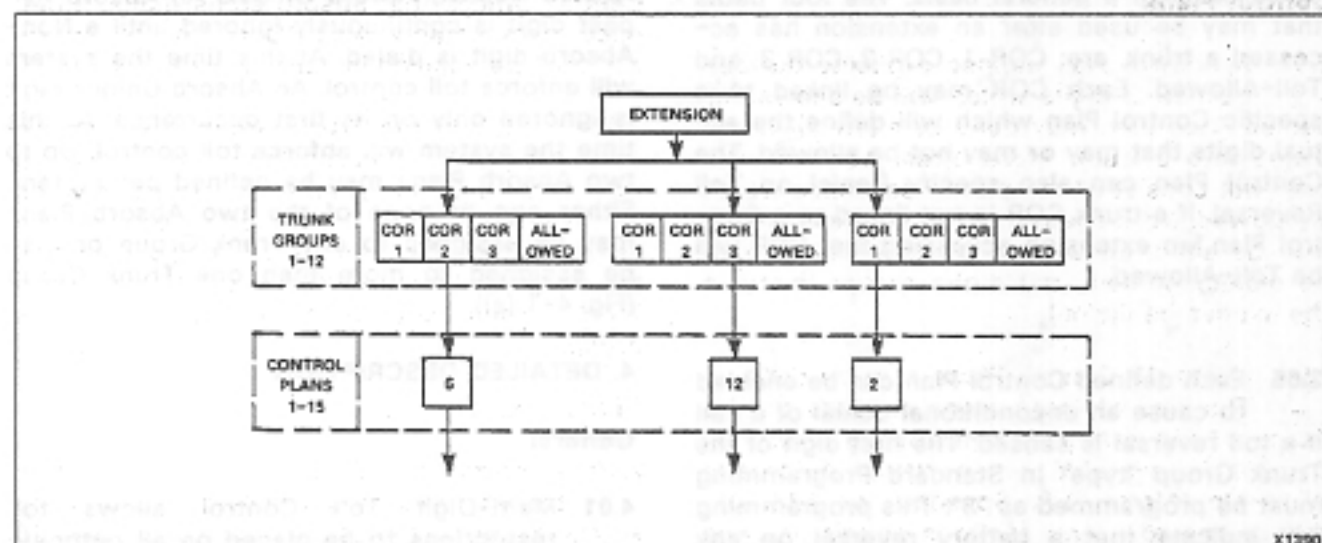

Fig. 3-1 Trunk Group Control Plans
3.02 Each Trunk Group may be assigned three different Control Plans, each one linked to one of the Trunk Group's COR's. When an extension accesses a Trunk Group, the COR of the extension is matched to the Trunk Group COR and the assigned Control Plan is accessed. This allows different extensions to access different Control Plans when placing calls through the same Trunk Group (Fig. 3-1).